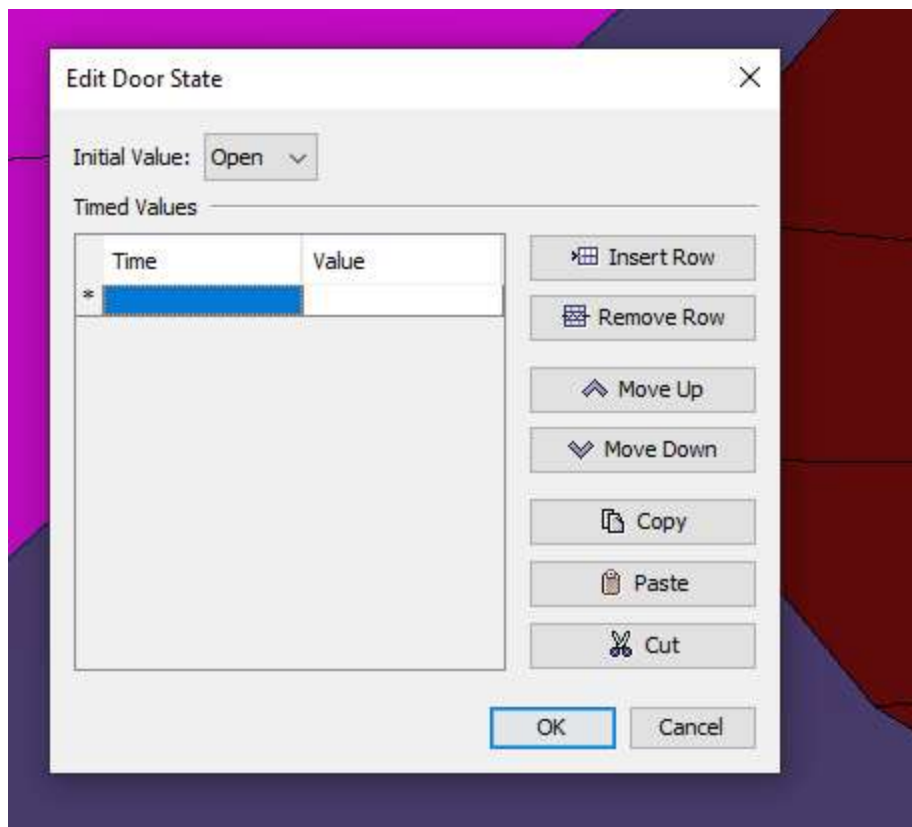

Figure 11 – Scripted Events Dialog in Pathfinder
- **State:** Indicates the timed opening, closing, and changing the one-way direction of the door. A one-way door is one through which occupants can only travel in one direction. By default, all doors are always open throughout the simulation. To change this, click the link. The Edit Door State dialog will appear as shown in *Figure 11*. This dialog allows the initial state of the door to be specified as well as additional timed states.